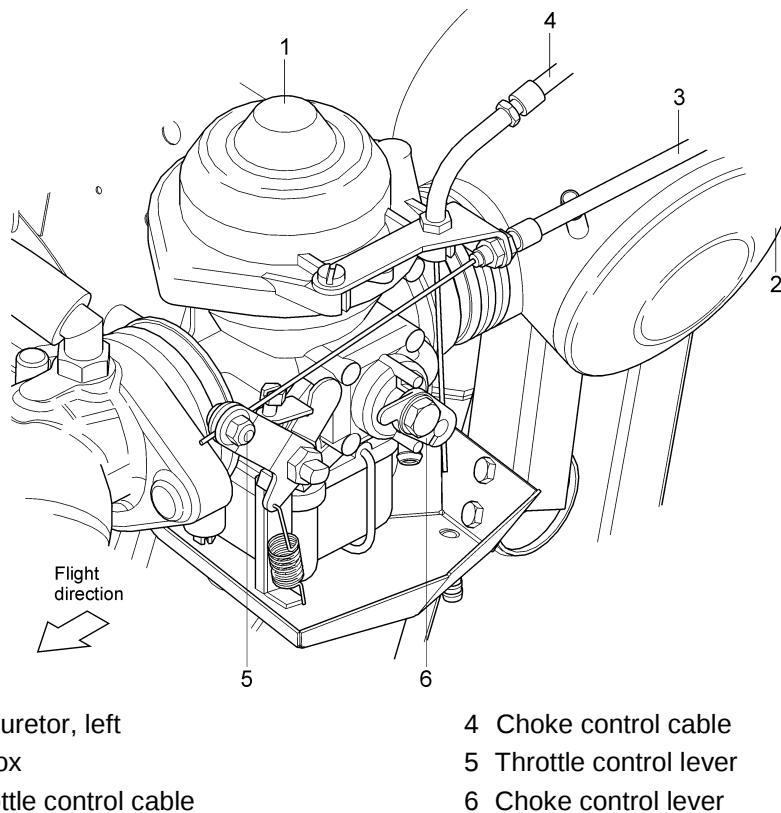

Fig. 10-11: Throttle and choke control connection
- (b) Secure the bolt heads (2) by lockwire (see 15.8.2).
- (k) According to the Fig. 10-11 connect control cables of the throttle and the choke on the carburetors control levers. Adjust throttle control (see 10.4.8) and the choke (see 10.4.9).